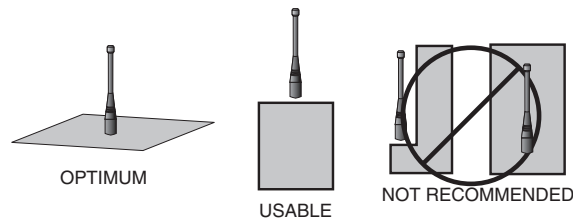

Figure 25: Ground Plane Orientation
2. Optimum performance is obtained from a $\frac{1}{4}$ - or $\frac{1}{2}$ -wave straight whip mounted at a right angle to the ground plane (Figure 25). In many cases, this isn't desirable for practical or ergonomic reasons, thus, an alternative antenna style such as a helical, loop or patch may be utilized and the corresponding sacrifice in performance accepted.